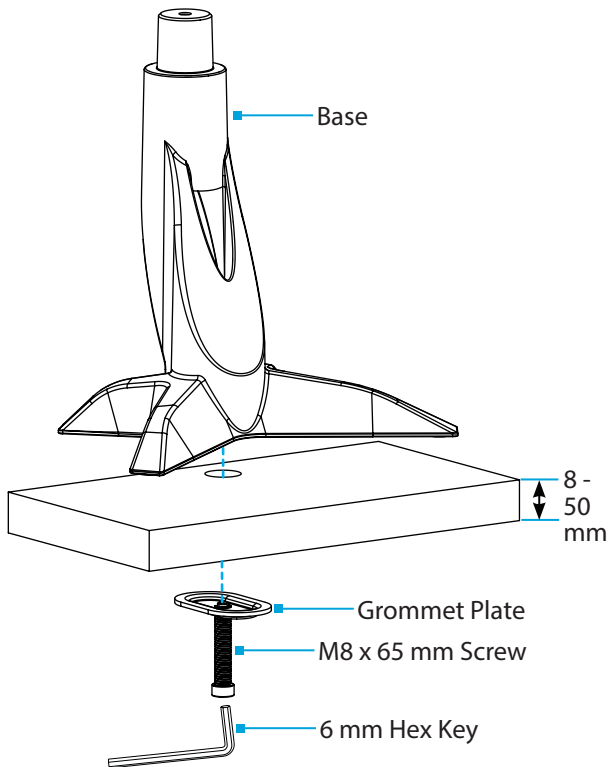

Figure 3
7. Tighten the **Screw Assembly**, until the **Grommet Plate** is connected to the base and seated tightly against the **Desk** or **Table**, using the **6 mm Hex Key**. (Figure 3)